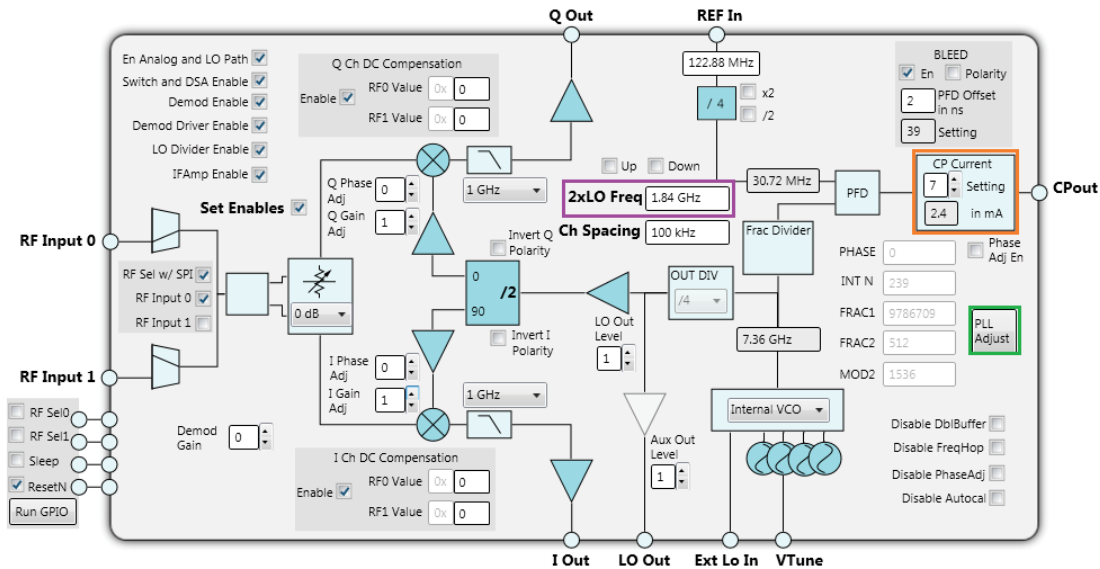

Figure 6. ADRF6821 Tab
3. From the **ADRF6821 Board** tab, double-click the **ADRF6821** icon to open the **ADRF6821** tab (see Figure 6). The **ADRF6821** tab allows the user to configure the ADRF6821 in any desired configuration.
Figure 6 shows the **ADRF6821** tab, which displays the main controls required to configure the device.